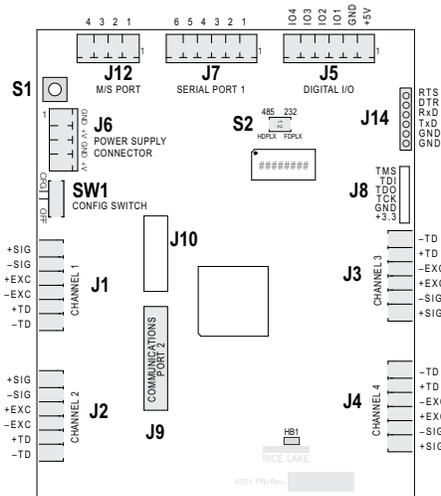

Figure 1. iQUBE2 CPU Board
3. Ensure S2 dip switches on the iQUBE2 CPU board are set to 485 (1,2 both set to OFF). See Figure 1 for S2 dip switch location.